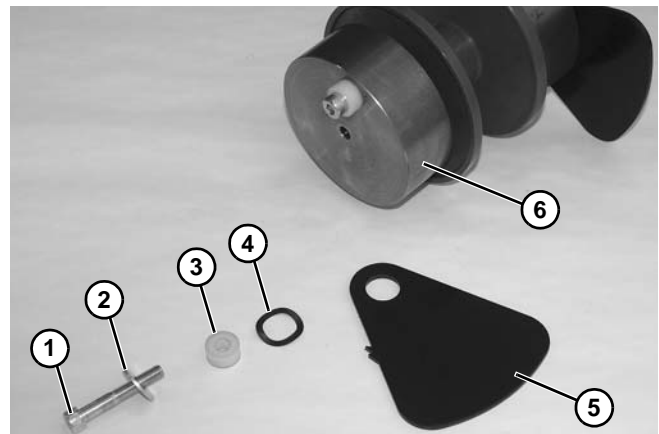

Figure 140
7. Remove bolt (**Figure 140, item 1**), washer (**Figure 140, item 2**), spacer (**Figure 140, item 3**), wave washer (**Figure 140, item 4**), and plate (**Figure 140, item 5**) from end of idler assembly (**Figure 140, item 6**).